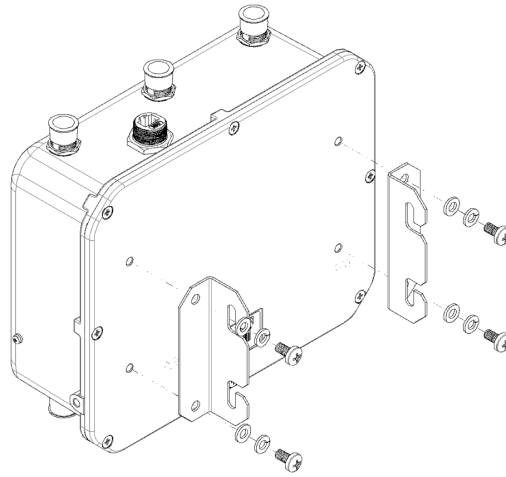

Figure 7 – Mounting brackets to the device
- a. Figure 7 shows the required position of brackets.